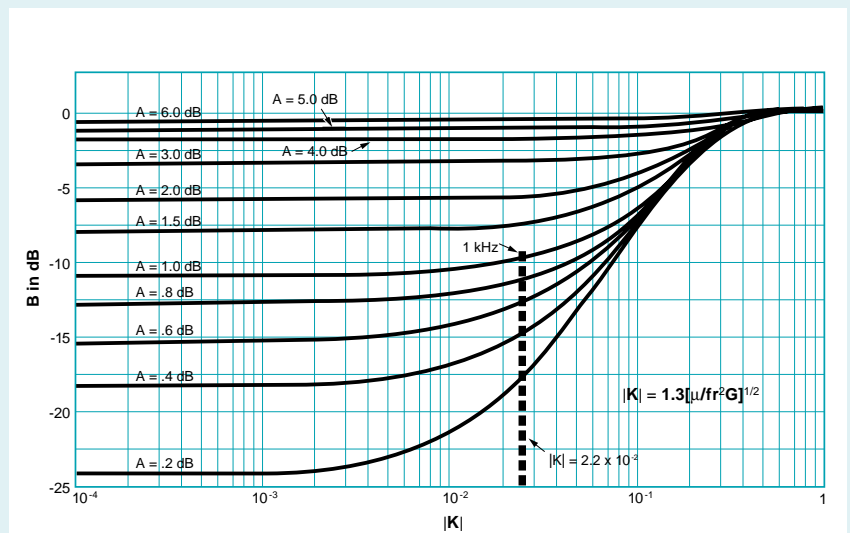

Figure 9 Solving for Secondary Reflection Loss (B)¹
The preceding equation was solved in two parts. A digital computer was programmed to solve for B with a preselected value of A, while $|K|$ varied between 10^{-4} and 10^3 . The results are plotted in Figure 9.
- Proceed to Figure 9.
- On Figure 9, locate $|K| = 2.2 \times 10^{-2}$ on the horizontal scale.